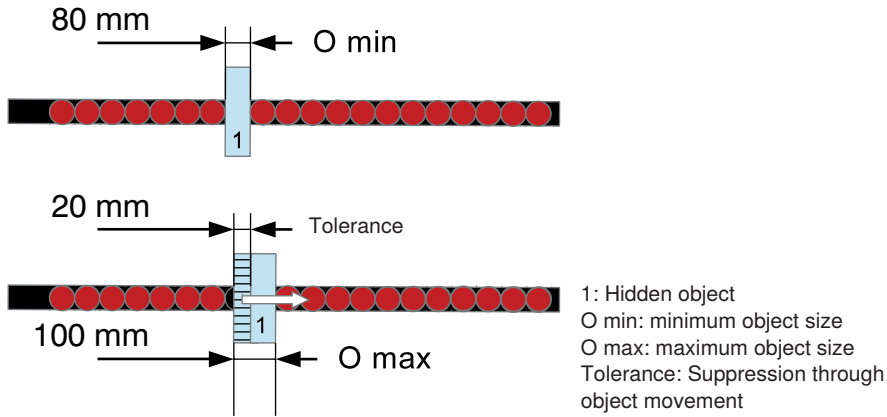

Figure 26: Object monitoring floating blanking
- The ESPE monitors the following parameters (see Figure 26):